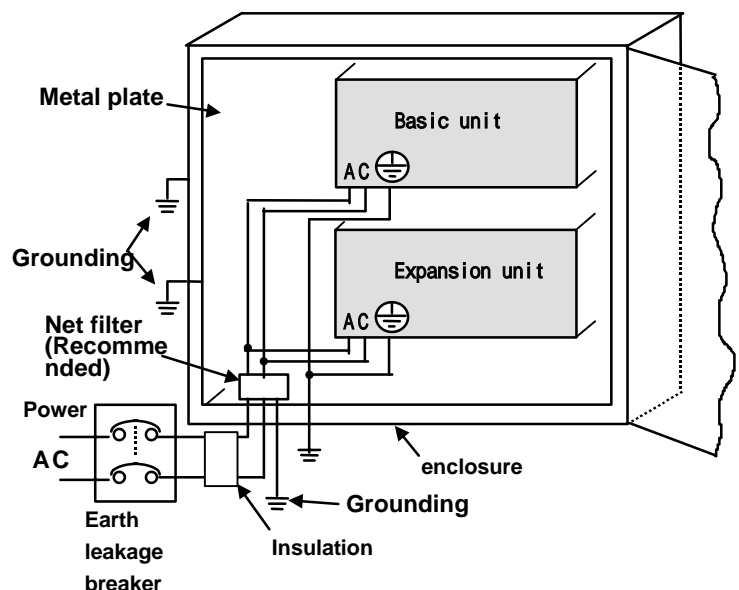

Figure 1 Power wiring example
- The basic and expansion unit should be wired to a common power source and powered up together as shown in fig.1.